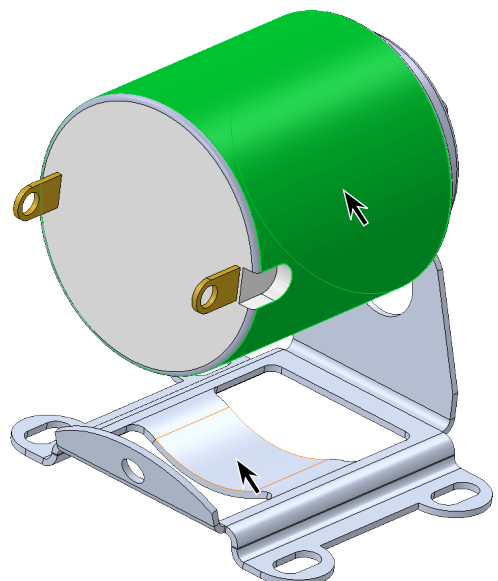

Fig. 5
Step 6. Click **cylindrical face of Motor** and **cylindrical formed face in MMB**, Fig. 5.